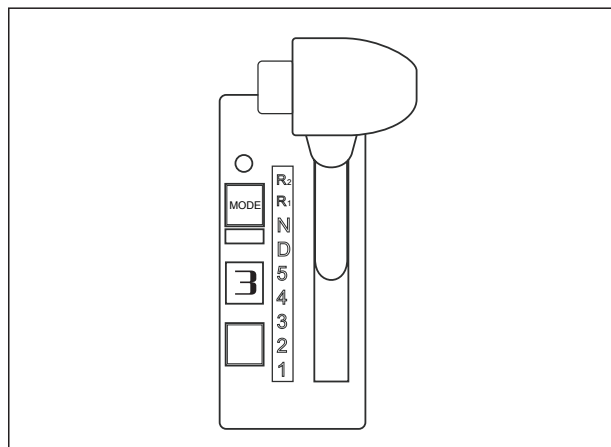

Fig. 4-24
2. Make sure the transmission is in 'NEUTRAL'.(see Fig.4-24).